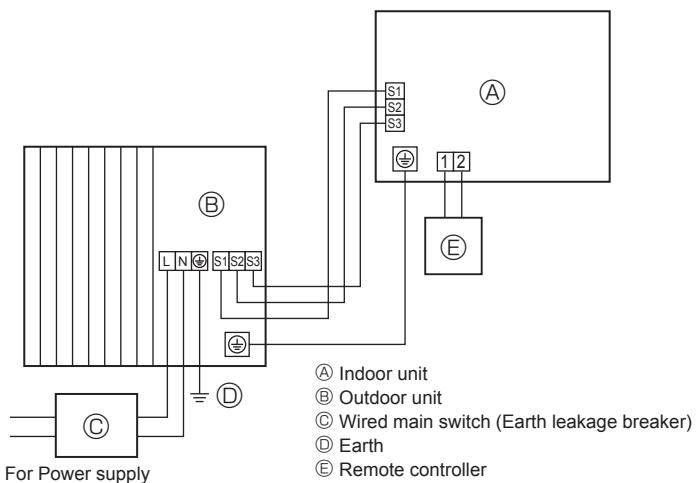
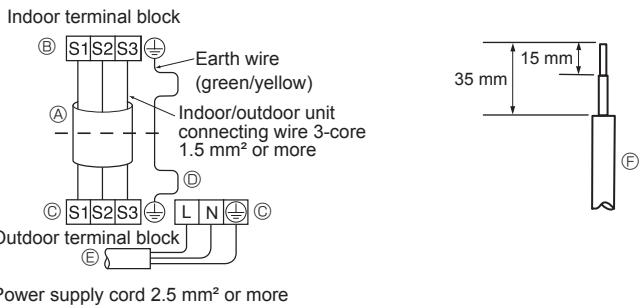
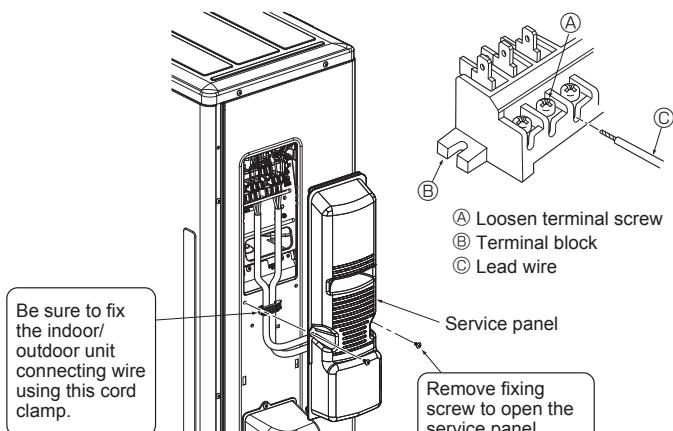

Fig. 6-1
Fig. 6-2
Fig. 6-3
6.1. Outdoor unit (Fig. 6-1, Fig. 6-2, Fig. 6-3)
- ① Remove the service panel.
- ② Wire the cables referring to the Fig. 6-1, Fig. 6-2 and the Fig. 6-3.
- Perform wiring as shown in the diagram to the lower left. (Procure the cable locally) (Fig. 6-2)